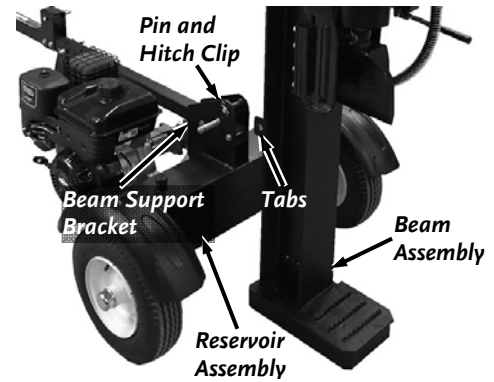

Figure 18
1. Get help from another person to stand the beam upright on a flat level surface (**Figure 18**). Have the helper support the beam as you perform the following steps.